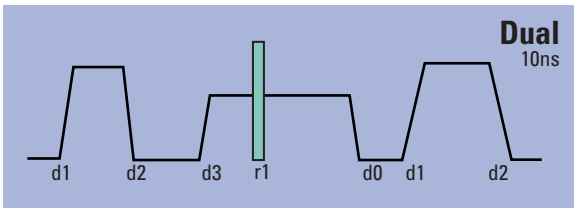

Figure 5-31: Dual mode
The dual mode (refer to Figure 5-31) operates at up to 100 MHz, with up to 256 Tsets and 32 Edgesets. Full SCAN, MTO, and DSSC operation are supported. Vector depth is 64 Meg, with 3-bits per pin/vector. Five (5) edges — D0, D1, D2, D3, and R0 — in drive or receive cycles, as well as edge strobe are available.